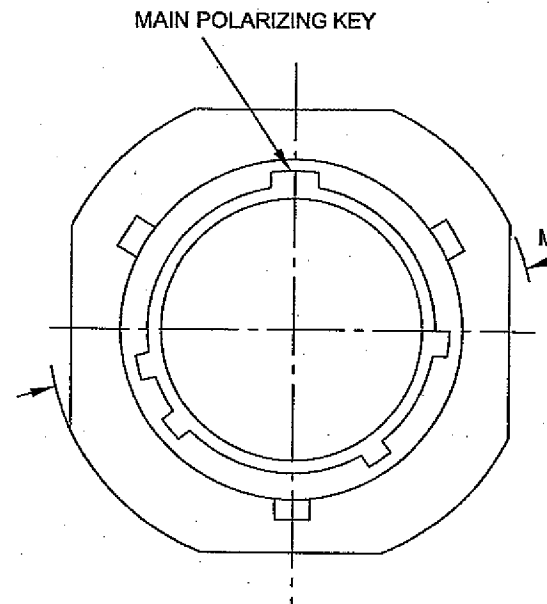

Fig 11 461 Cabl
10.4 Dimensions of the receptacle are given in Fig 11 and details in Table 7.